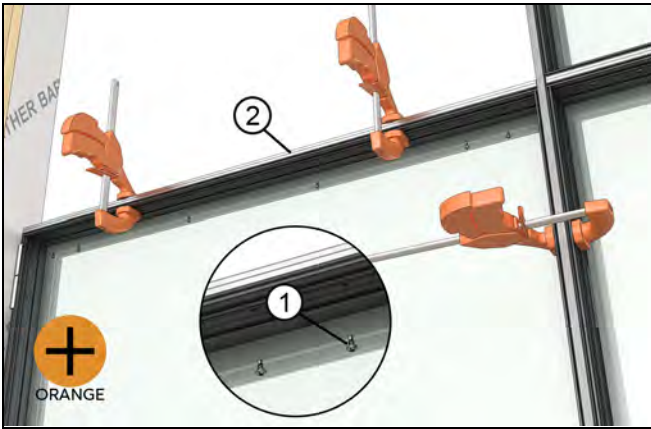

Figure 57
23. If not already attached from the factory, fasten the horizontal mull pin for the standard mull atop the B2 unit following procedures outlined previously. See Figure 57.